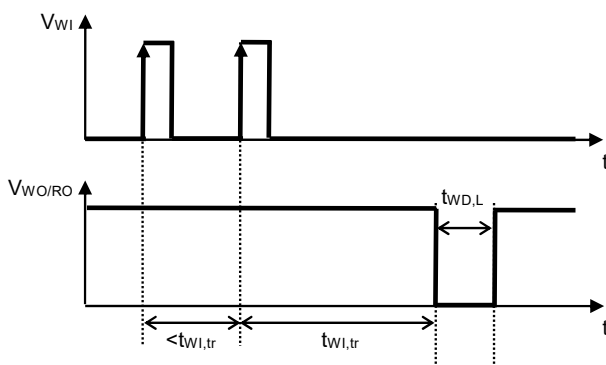

Figure 8 Watchdog Trigger Time
*1. The time when the WO / RO pin continues "L" after the watchdog timer detects a time-out or double-pulse (Refer to **Figure 8**). This value changes according to C_{DLY} .
*2. The time from when the watchdog timer initiates the detection of a trigger signal to when a time-out is detected and the WO / RO pin output changes to "L" (Refer to **Figure 8**). This value changes according to C_{DLY} .